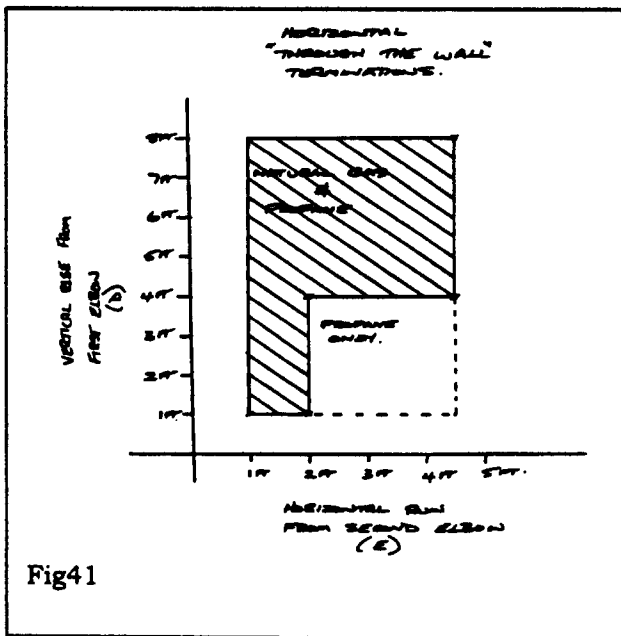

Fig 41
9.2.1.3 Fit vent accessory elbows and pipe lengths as required. Fiber restrictor disks must be fitted at the joints of the Dura-vent vertical pipes as shown in the following table. **Be aware that, for Natural gas installations the maximum allowable vertical rise depends on the horizontal run length - See fig. 41**
9.2.2.3 Fit vent accessory elbows and pipe lengths as required. Fiber restrictor disks must be fitted at the joints of the Dura-vent vertical pipes as shown in the following table. **Be aware that, for Natural gas installations the maximum allowable vertical rise depends on the horizontal run length - See fig. 41**